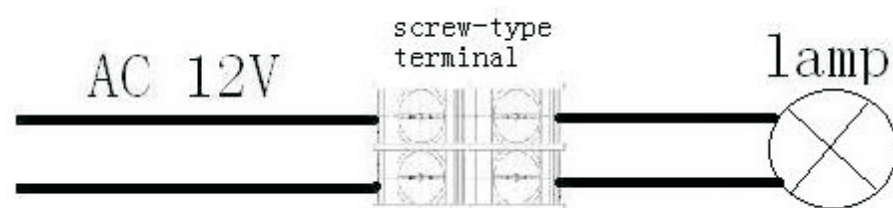

Figure 0.
- c) Terminal blocks must meet the IEC60988-2-1 standard having the rated connecting capacity of 1.5mm² use of screw-type terminal at least 25A rated current, mounted on junction boxes inside. See Figure 0